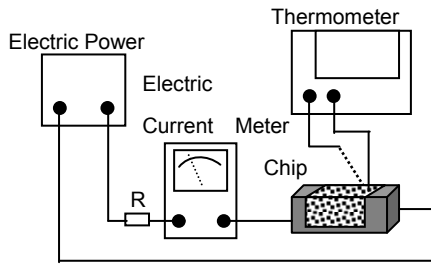

Fig. 5.3.5-1
- d. Definition of Rated Current(Ir): Ir is direct electric current as chip surface temperature rose just 20℃ against chip initial surface temperature(Ta) (see Fig. 5.3.5-2).